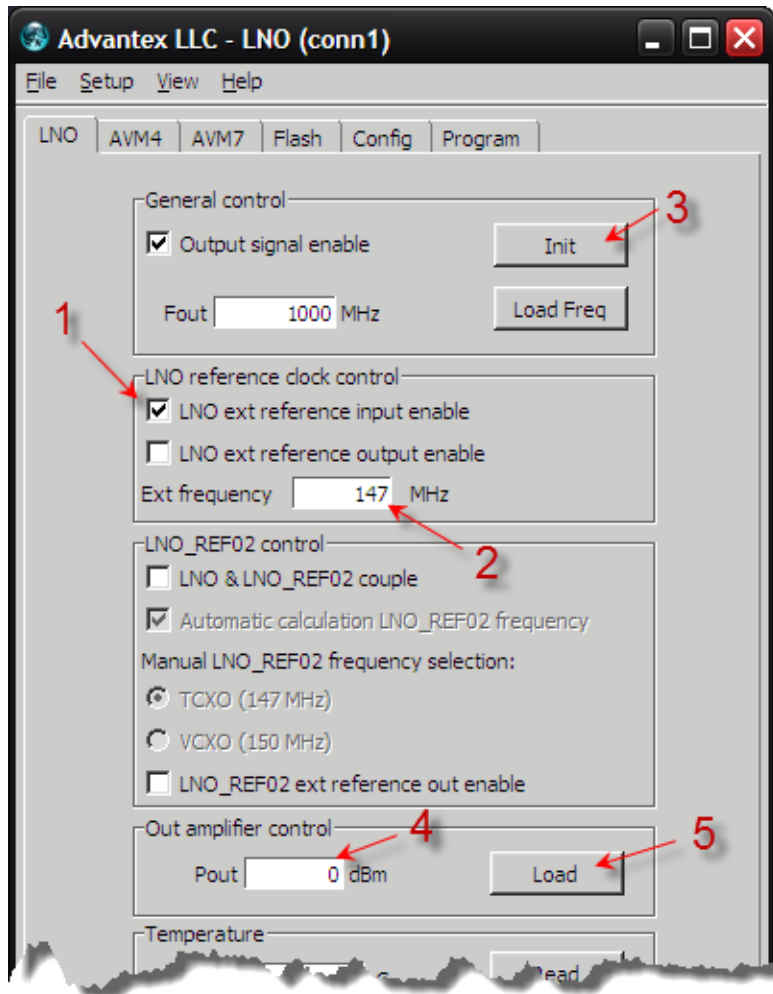

Figure 11: Ext. Reference
11. If you need to use external reference, please check the box LNO ext reference input enable (fig. 11, Item 1), set the reference frequency value (Item 2) and press Init button (Item 3). To set output level proceed with Load button (Item 4, 5).